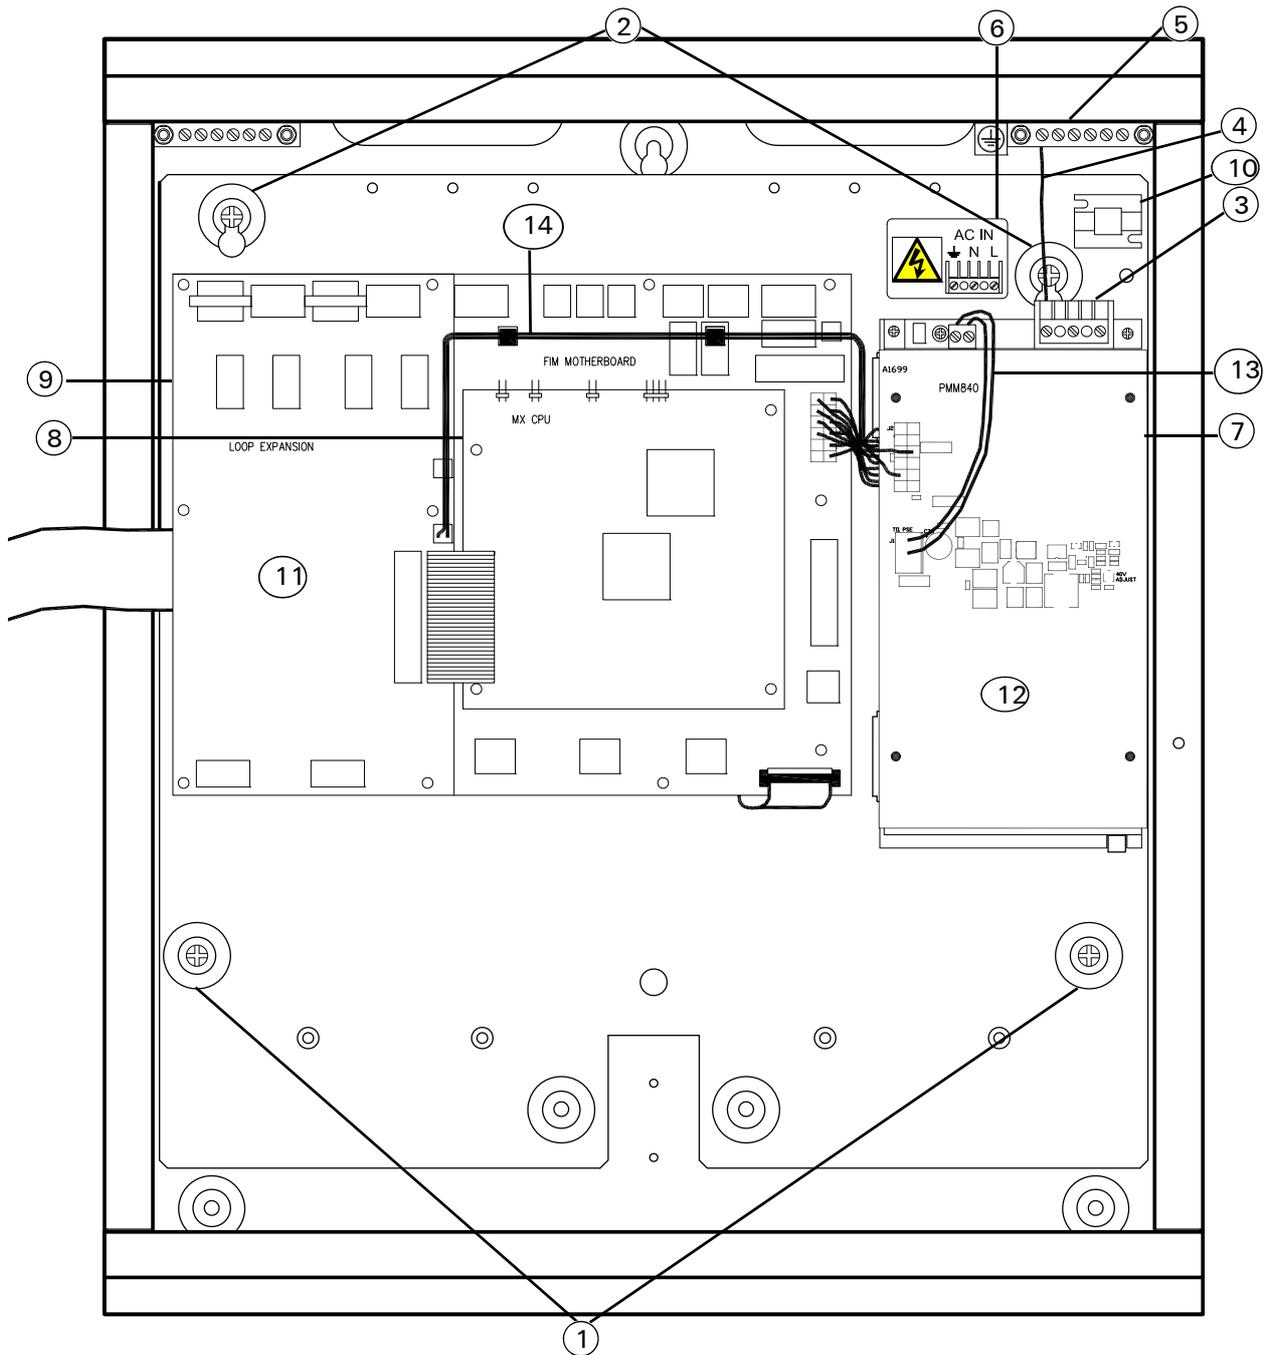
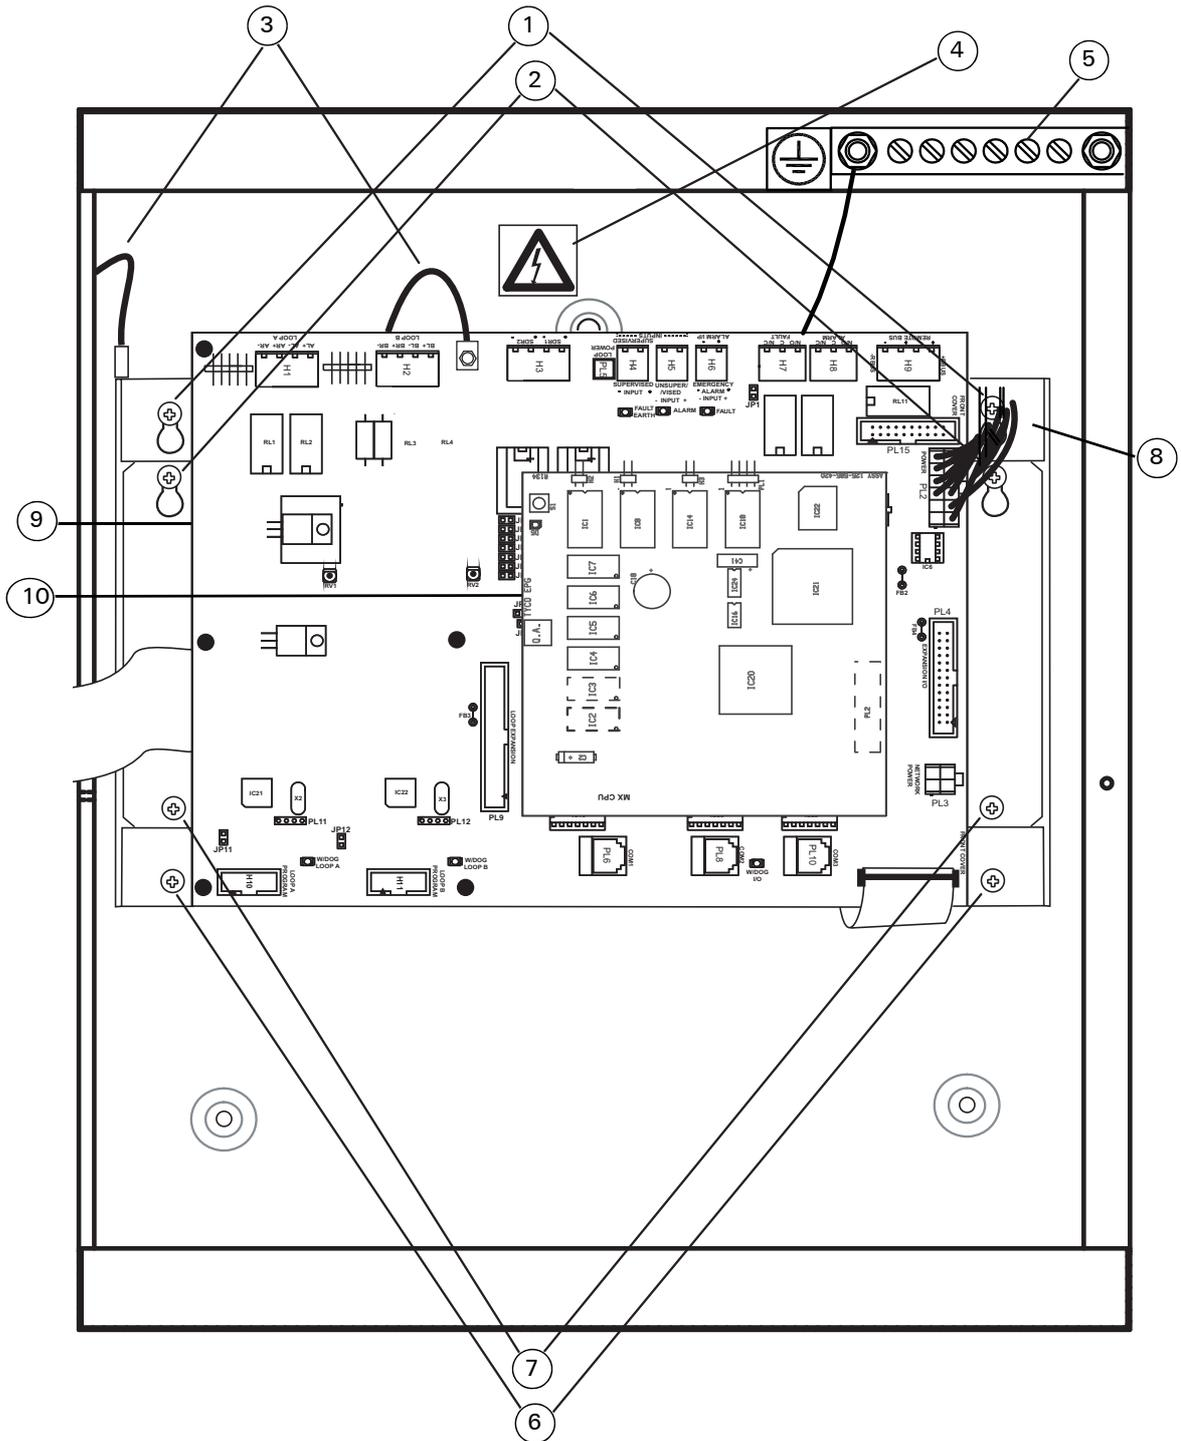

Fig. 8: Housing with chassis plate for FireClass 64-4 and FireClass 240-4
Fig. 9: Housing with Chassis Plate – FireClass32-1
Note the dangerous voltage warning sticker on the chassis plate. This is item 6 in Fig. 8.
- 1 Note that for the steps in this section refer to Fig. 9 on page 19 for FireClass32-1 control panels, or Fig. 8 on page 18 for all other FireClass control panels.
- 6 For FireClass32-1 panels only, disconnect the PSU to FIM lead (item 8 in Fig. 9).
- 4 Connect loop cable screen (if applicable). The recommendation is to electrically join the screens from each section of loop cable, making connections within the loop devices, for example, then connect this to the housing earth connector (item 5 in Fig. 8 on page 18).